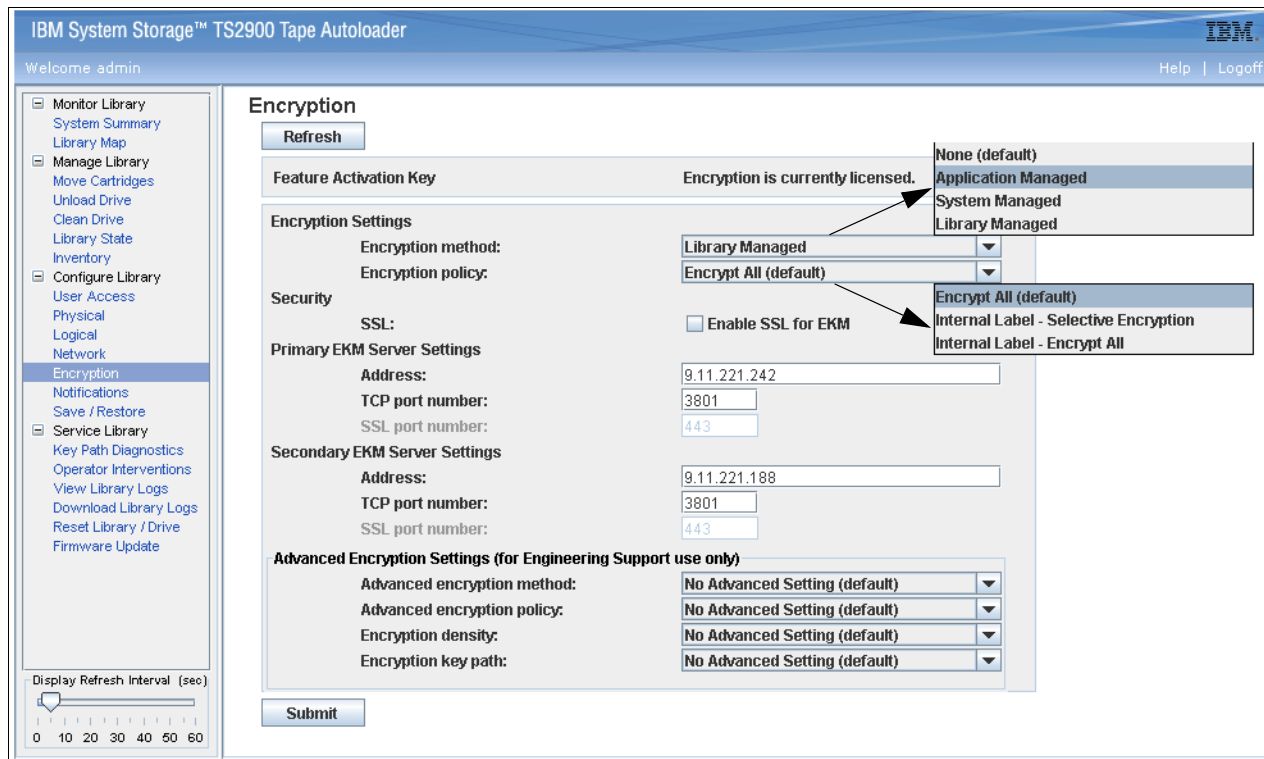

Figure 7-16 Encryption menu for TS2900 Tape Autoloader
1. Go to the Welcome page of the TS2900 using the Web Interface and select **Configure Library** → **Encryption** to configure an encryption method for data being stored on tape cartridges. The panel in Figure 7-16 on page 178 shows you the Encryption menu.